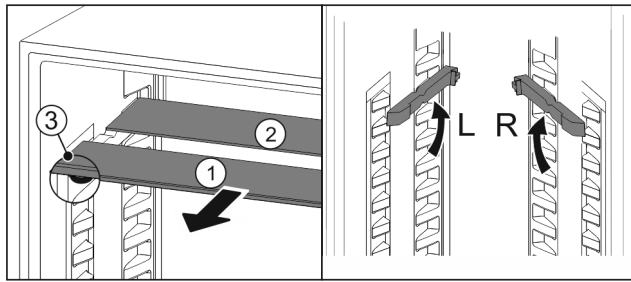

Fig. 82
- ▶ Pull the glass panels out Fig. 82 (1) from the front, one at a time.
- ▶ The glass panel Fig. 82 (1) with the trim strip is at the front.
- ▶ The stops Fig. 82 (3) point downward.